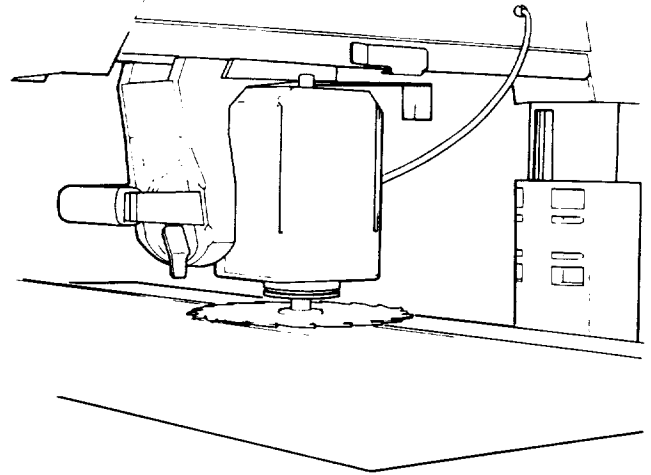

Fig. 97
3. Unlock the *bevel lock*, and turn the *motor* so that the *blade* is parallel to the *table*. (Figure 97)